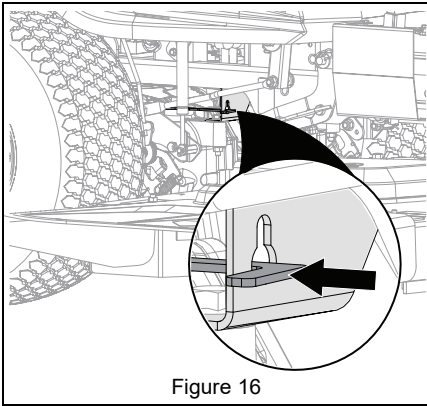

Figure 16
- Return transaxle bypass levers to operating position. See Figure 16.